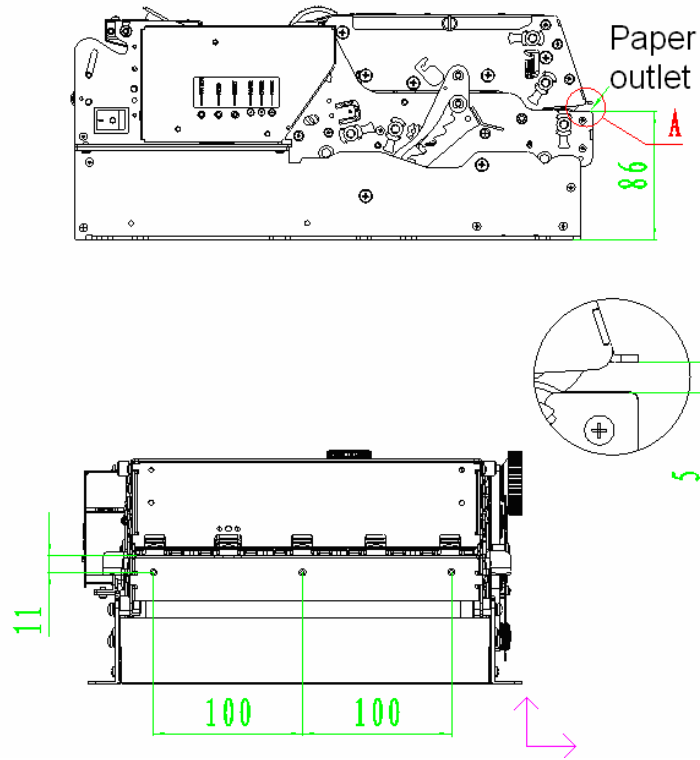

Fig.4.6.4 Paper outlet
- ◆ Paper outlet: After Bundler executes the accommodation, the accommodating paper could be sent out of Bundler. A external paper out path should be set at Bundler paper outlet of which the position, dimension and fixing position are referred to Fig.4.6.4. User can design his own corresponding external paper outlet.